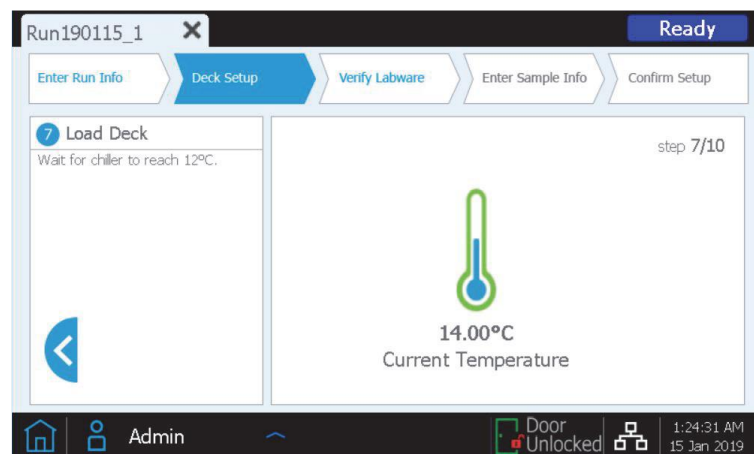

Figure 12. Step 7 of 10 of the *Deck Setup* screen of the Magnis NGS Prep instrument.
- The instrument's chiller module must reach a temperature of 12 °C before loading the Magnis instrument. If said temperature has not been reached at this point, the touchscreen will appear as shown in Figure 12. However, if the chiller has already reached the necessary temperature, this screen will not appear.